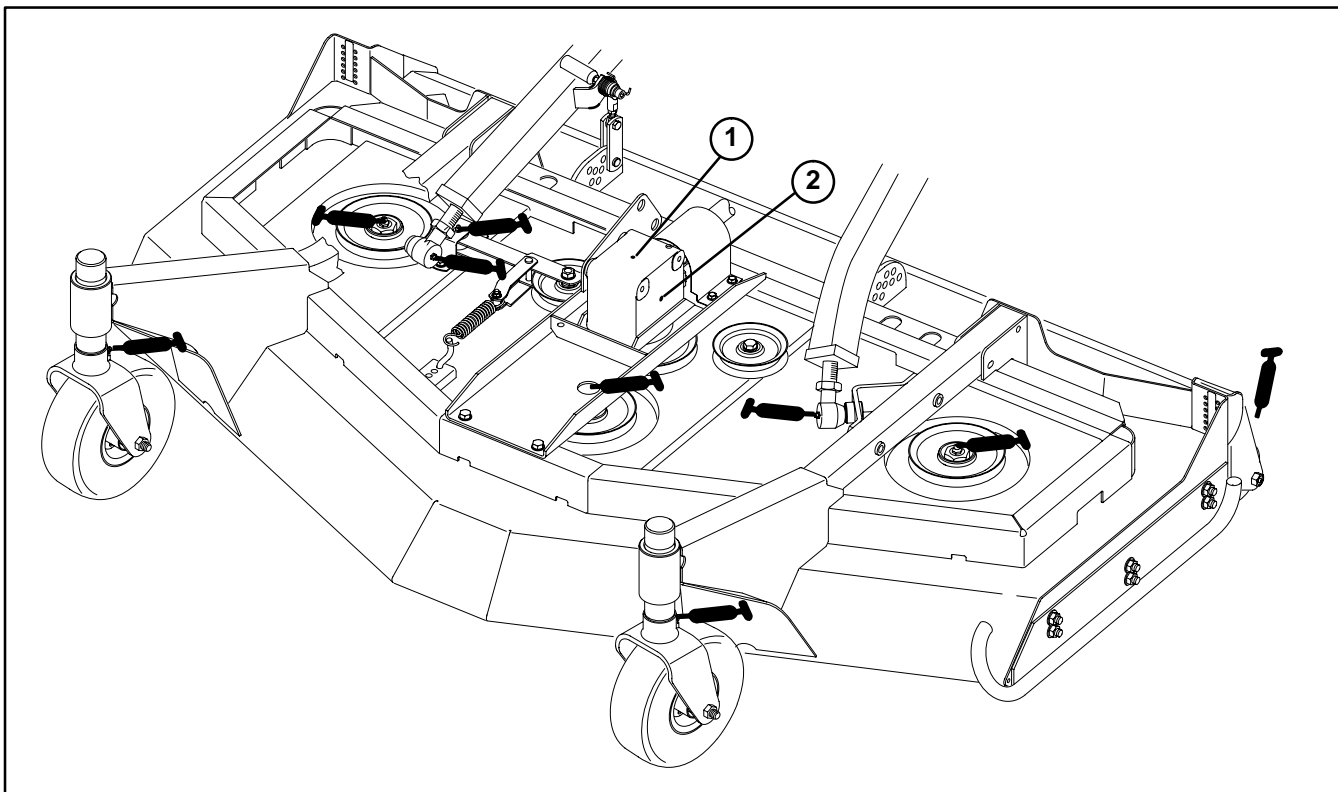

Figure 14
front castor shaft bushings (2), blade spindle bearings (3), gage wheels (2), idler arm pivot and right and left push arm ball joints (Fig. 14).